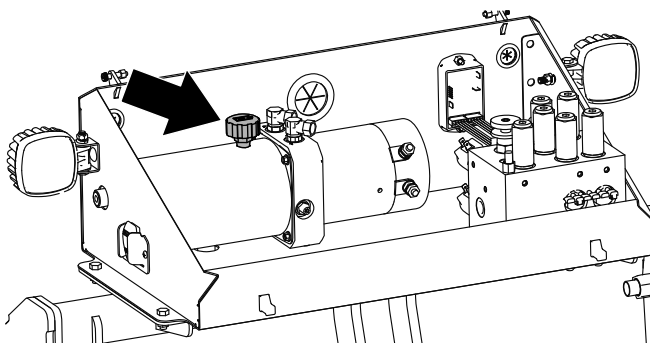

Figure 44
2. Clean the area around the fill cap (Figure 44).
3. Remove the fill cap from the hydraulic reservoir (Figure 44).